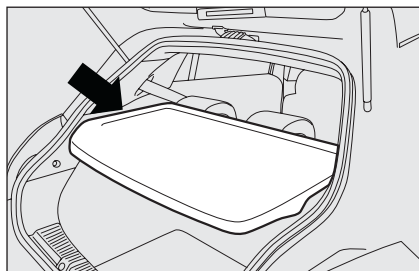
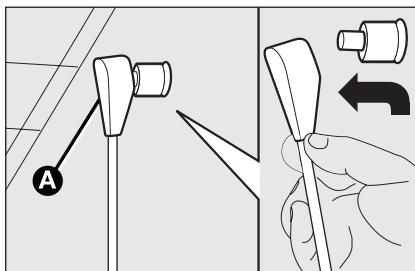

fig. 90
fig. 91
- ☐ remove the rear parcel shelf **fig. 90** and release the upper ends **A-fig. 91** of the two tie rods by removing eyelets from the pins and pushing them in arrow direction;